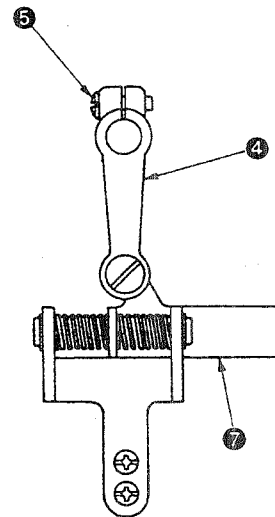

Fig. 51
<p>1. Turn the handwheel to bring the needle bar to the lowest dead point.</p> <p>2. Press conversion fixing lever ① to release conversion lever ②.</p> <p>3. At this time, confirm that section A of conversion lever ② is aligned with the "0" position of thread tension plate ③.</p> <p>4. If they are not aligned with each other, loosen conversion shaft clamping screw ⑤ as illustrated in Fig. 51, and align section A of conversion lever ② with the "0" position of thread tension plate ③. Then, firmly tighten conversion arm clamping screw ⑤.</p> <p>(Caution) 1. Do not loosen two screws ⑥ in the conversion lever.</p> <p>2. When tightening conversion arm clamping screw ⑤, using conversion lever ② and conversion arm ④.</p> <p>If there is a play at the clamping screw, conversion lever ② will be pushed against conversion plate ⑦. In this case, the function to stop either needle bar separately will not work normally, the separately-stopped needle will not be released from the stop state or needle bar breakage will occur.</p>	<p>If the initial position of the conversion lever is not correct, the function to separately drive the needle bars will not work properly.</p>